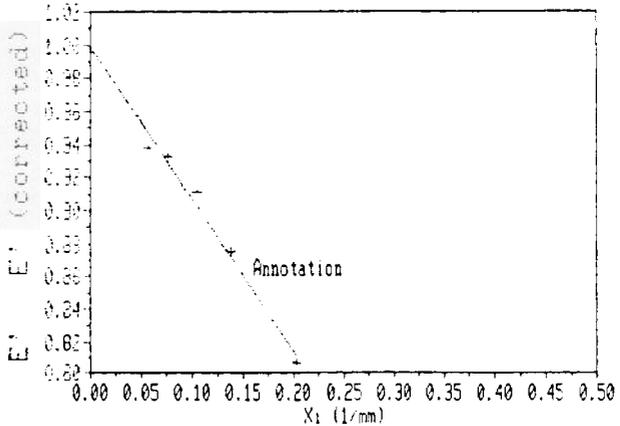

Figure 6.17
6. Press F6 to choose screen or curve coordinates for annotation positioning. The coordinates you choose affect how the annotation is located when the plot is rescaled (see Figure 6.17).